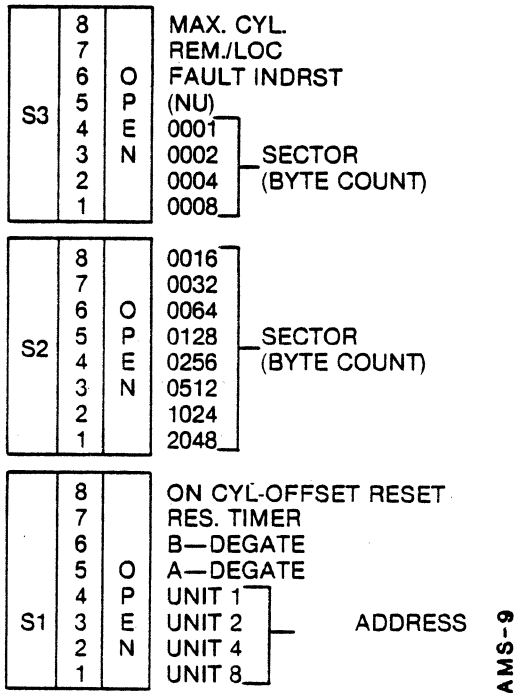

Figure E-1. Switch Blocks P/N 27015-001 and 27076-001 (SMD Dual Access Only)
2. Figures E-1, E-2 and E-3 show the three switch blocks located on P/N 27015-001 and P/N 27076-001 SMD Dual Access PWB's.
Maximum Cylinder Switch (See Figure E-1)
Local/Remote Switch (See Figure E-1)
Fault Indicator Reset Switch (See Figure E-1)
Sector Switches (See Figure E-1)
On Cylinder Offset Switch (See Figure E-1)
Reserve Timer Switch (See Figure E-1)
Unit Address Switches (See Figure E-1)